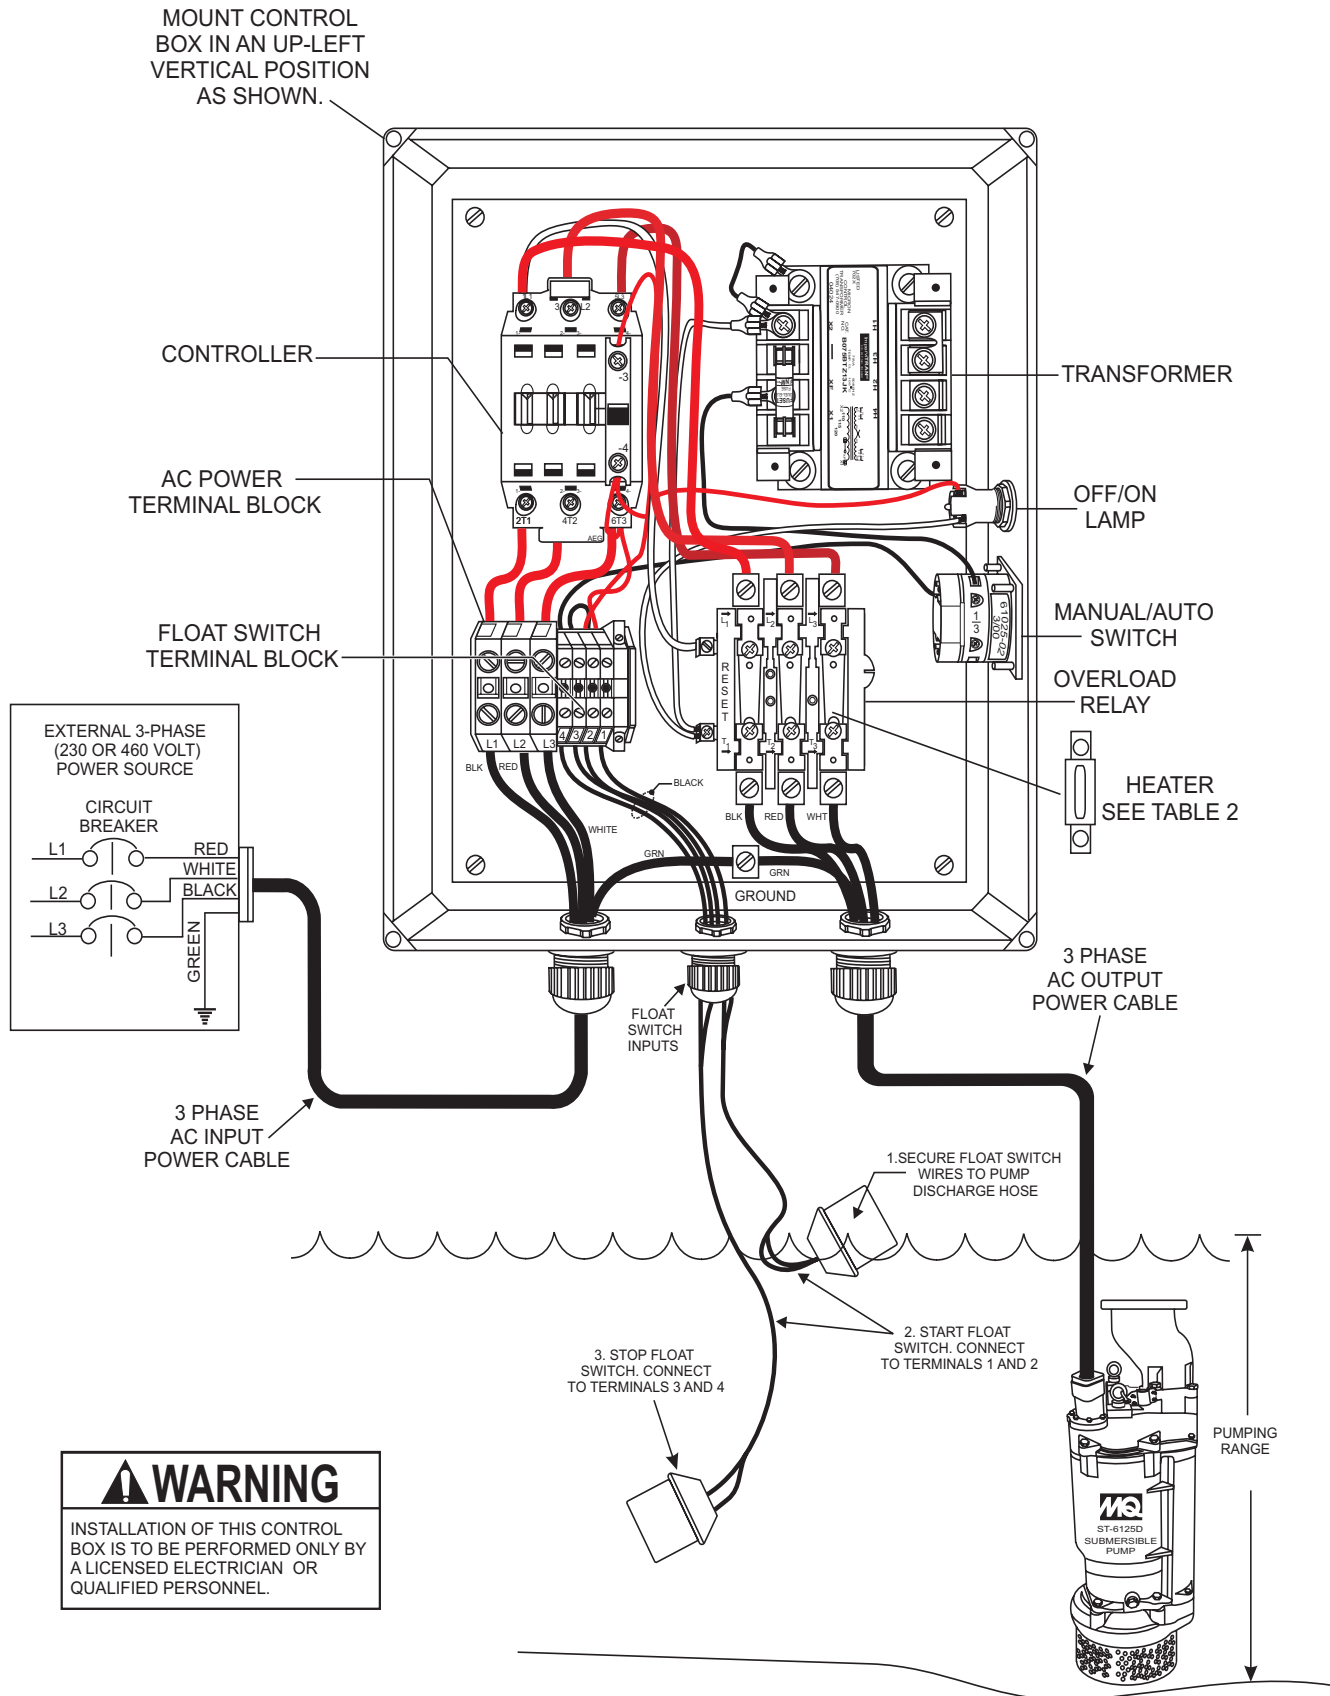

Figure 8. Three Phase Control Box/Pump System Diagram
2. Remove the 3-phase AC input connector housing from the control box, then route the three phase input power cable through the cable gland on the control box. Attach the wires to the AC terminal block inside the control box as indicated by Table 5 and Figure 8.
2. Remove the 3-phase AC output power connector housing on the control box, then route the three phase output power cable through the cable gland on the control box. Attach the wires to the AC terminal blocks on the overload relay as indicated by Figure 8.